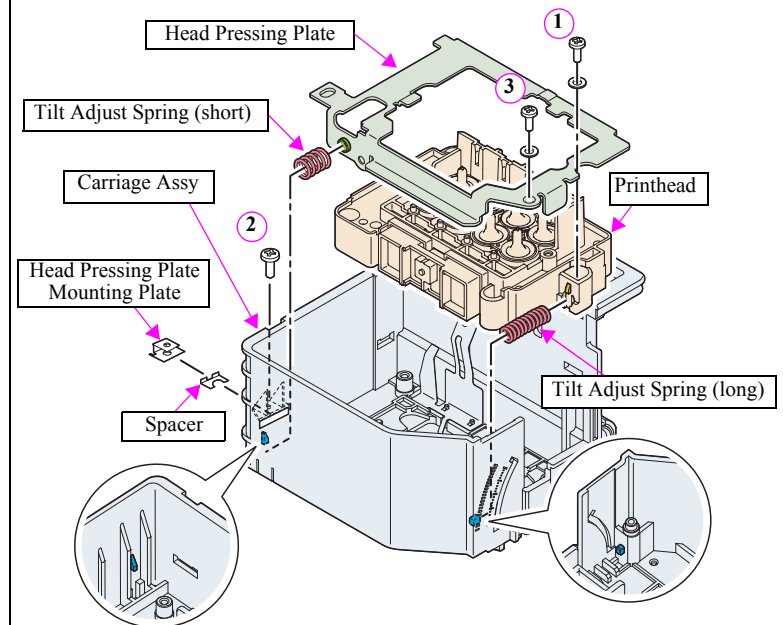

Figure 4-116. Installing the Printhead (2)
2. Insert the Tilt Adjust Spring (long) over the guide pin of the Carriage Assy, and set the other end of spring below the rib of the Printhead. See Figure.4-116.
3. Secure the Printhead with the screw (1).
4. Mount the Head Pressing Plate to the Carriage Assy, and secure it with the new Head Pressing Plate Mounting Plate, new Spacer and the screw (2).
6. Secure the Head Pressing Plate with the screw (3).